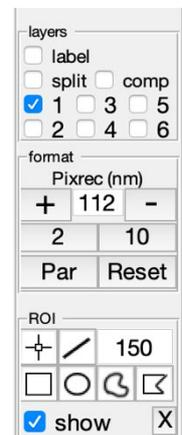

Figure 4: Format GUI
1. In the Format part of the GUI (Figure 4) reset the field of view with **Reset** and delete any ROI you might have drawn with **X**.